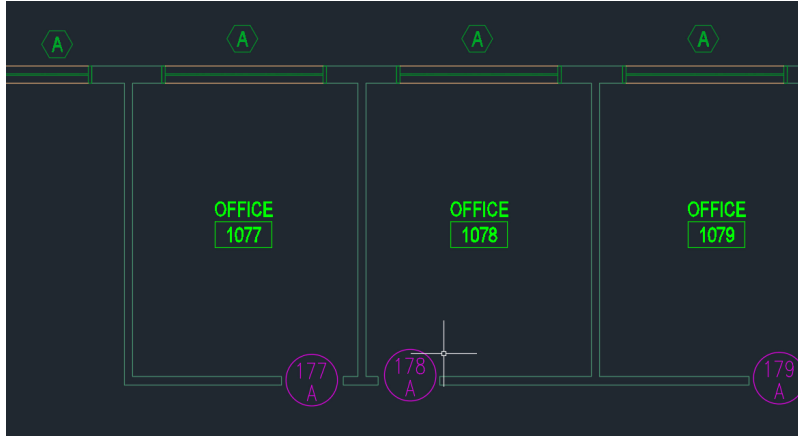

Figure 11: Block Attributes updates with values from Microsoft Excel.
7. Upon selecting the updated tab delimited text file, all Block Attributes are updated as shown in Figure 11.